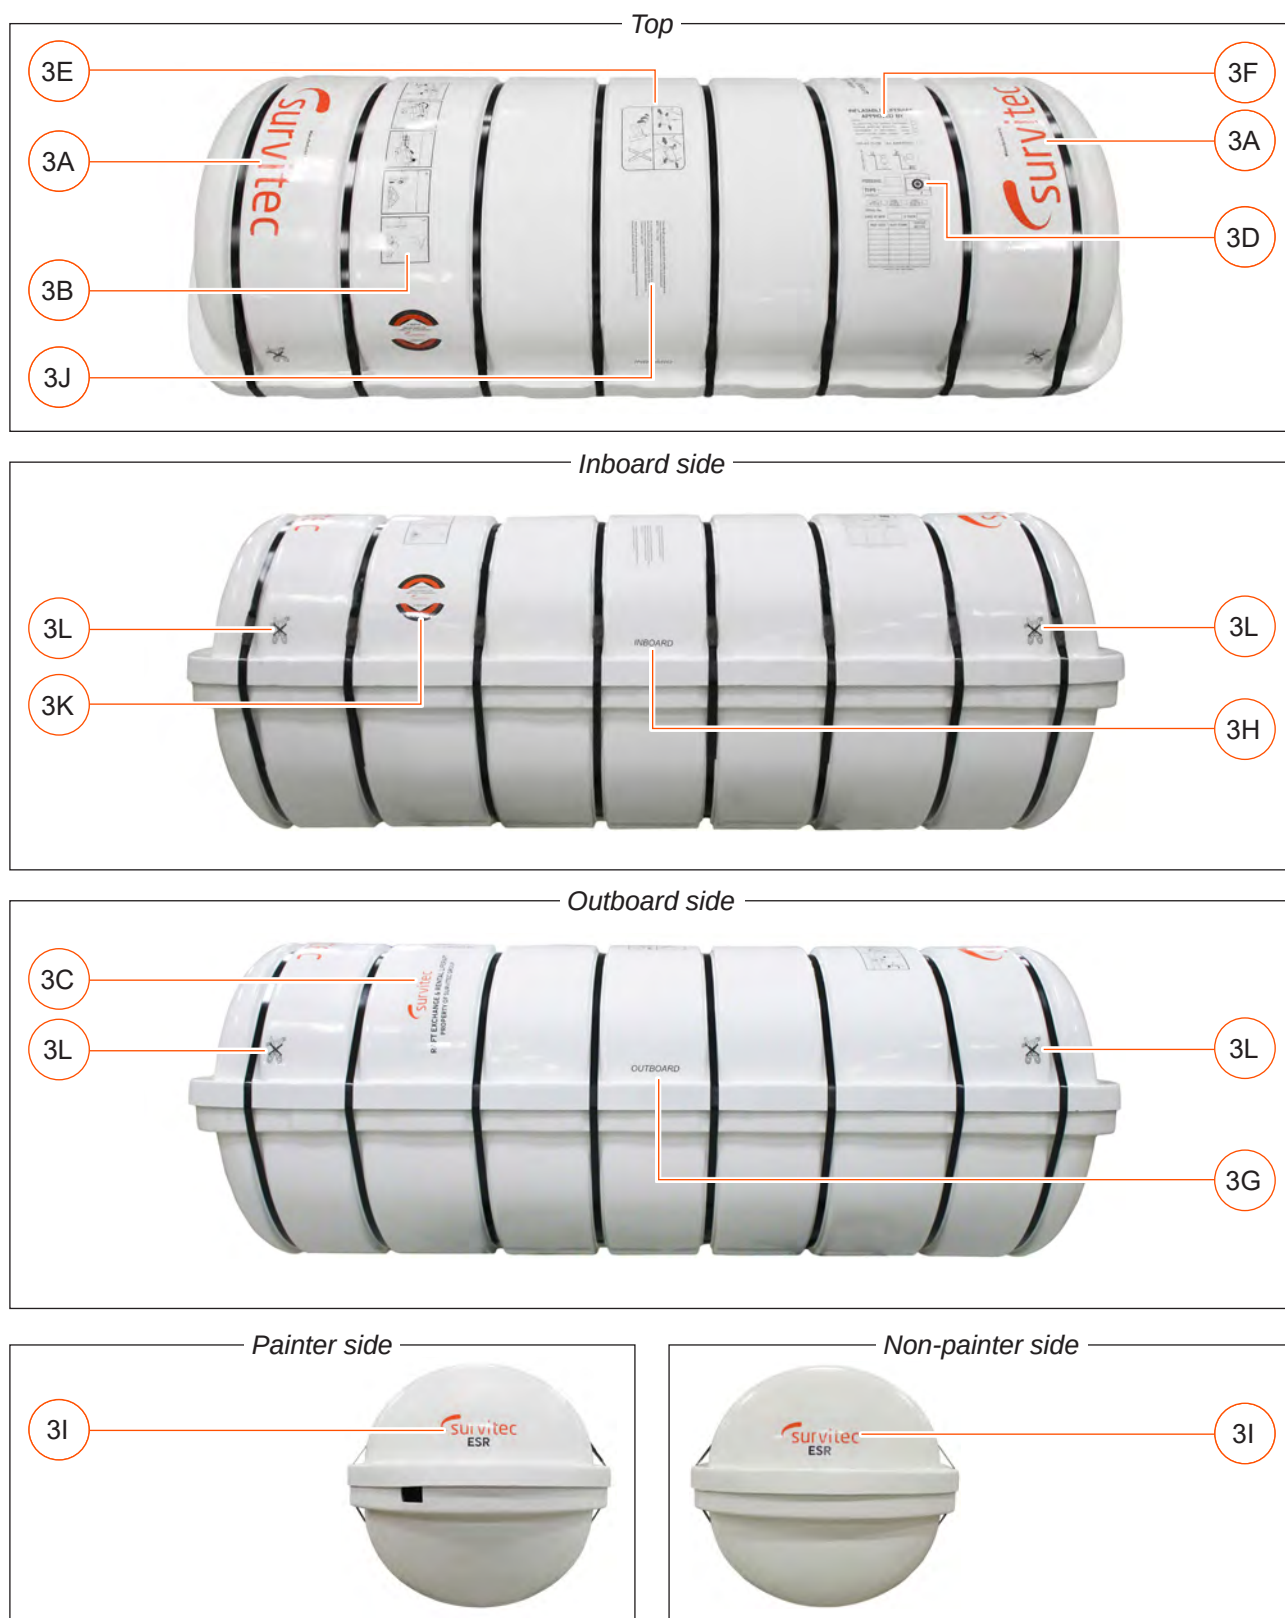

Figure 22
- Mk 10 size 9. Refer to **Figure 22** for label positions.